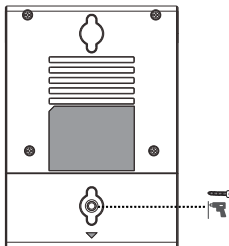

Figure 2
1. After connecting the cables, close the back cover and secure it with the PA3×8 mm screw as shown in Figure 2.